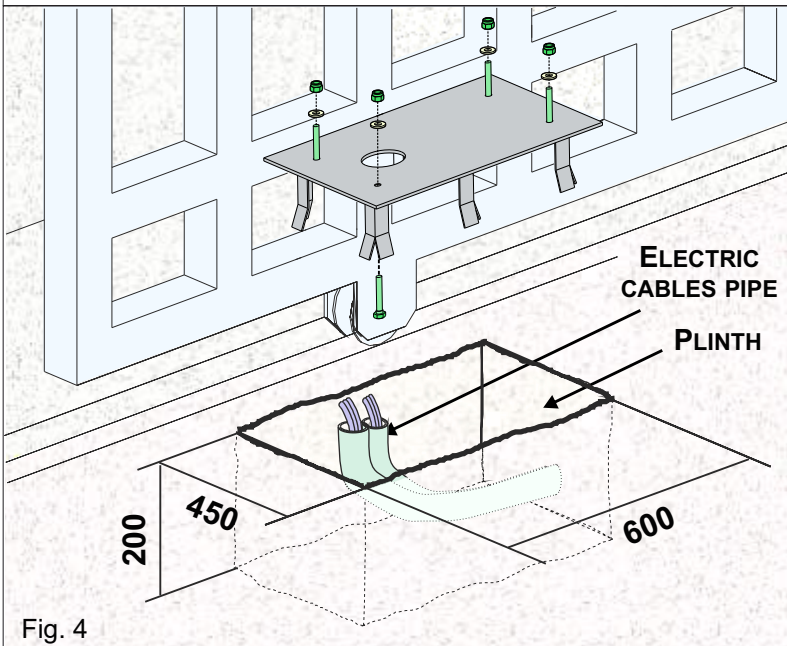

Fig. 4
**3.1.** Prepare a concrete slab according to the dimensions shown in Fig. 4; The anchor bolts must be concreted inside the slab. The foundation plate must be fixed on the anchor bolts and concreted on the slab